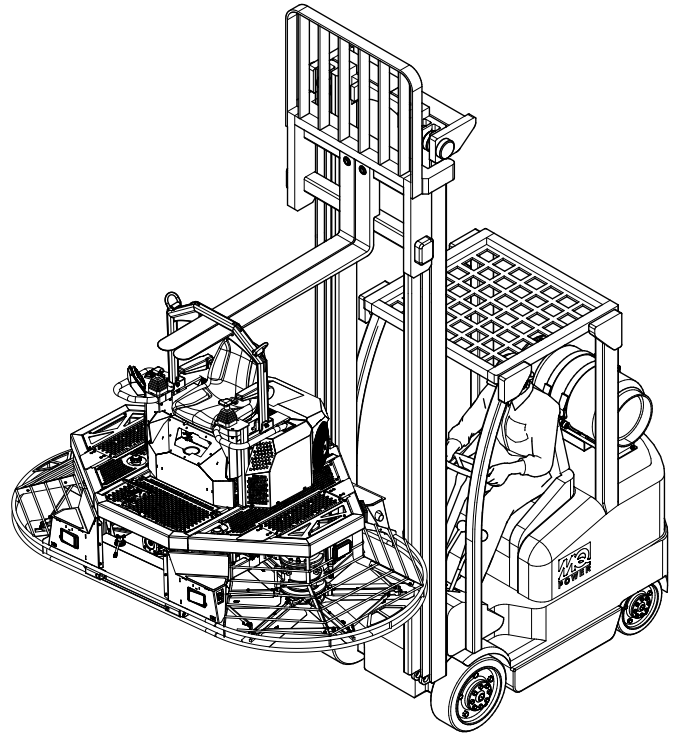

Figure 7. Lifting The Trowel (Forklift Pocket)
2. Insert forklift forks through the forklift pocket (Figure 7) at the top of the lifting bail.